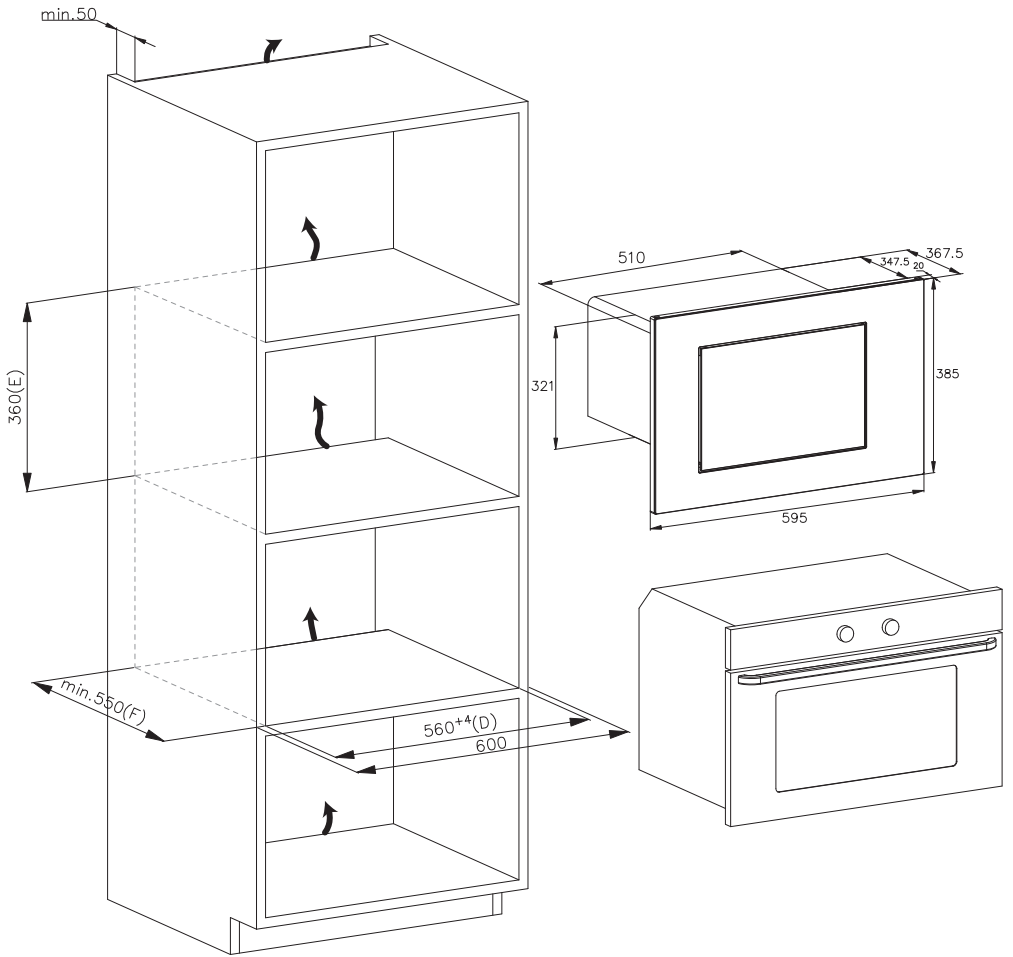

Fig. 5
Opening size: (D)560+4 x (E)360 x (F)550 (mm) as shown in Fig.5 "D", "E", "F".